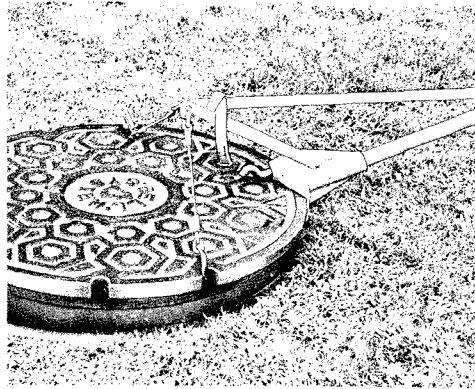
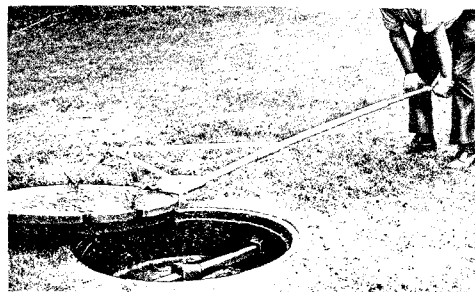

Fig. 23—Raising Cover Clear of Frame
Fig. 24—Rotating Cover Clear of Frame
(4) Continue the downward pressure to raise the cover clear of the frame (Fig. 23). Maintain downward pressure and walk sideways to pivot the tool on its fulcrum and rotate the cover clear of the opening (Fig. 24).